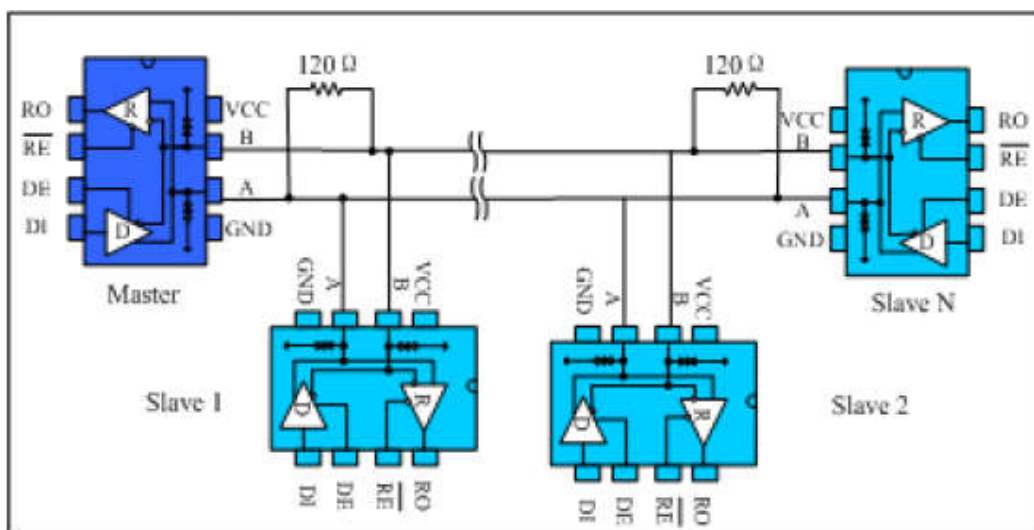

Fig. 9 Bus-type RS485 half-duplex communication network
4.1 Bus networking: The SP3485E RS485 transceiver is designed for bidirectional data communication on multi-point bus transmission lines. Figure 9 shows a typical network application circuit. These devices can also be used as linear repeaters with cables longer than 4000 feet. In order to reduce reflections, terminal matching should be done at both ends of the transmission line with their characteristic impedance, and the length of the branch wires other than the main line should be as short as possible.